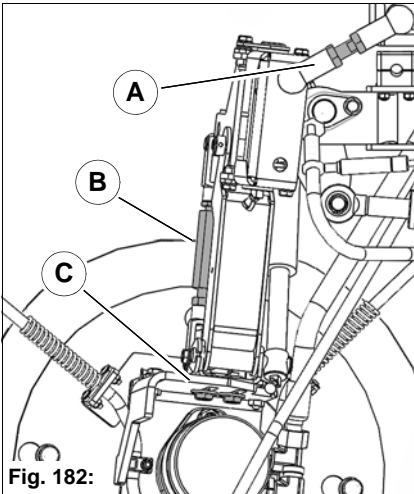
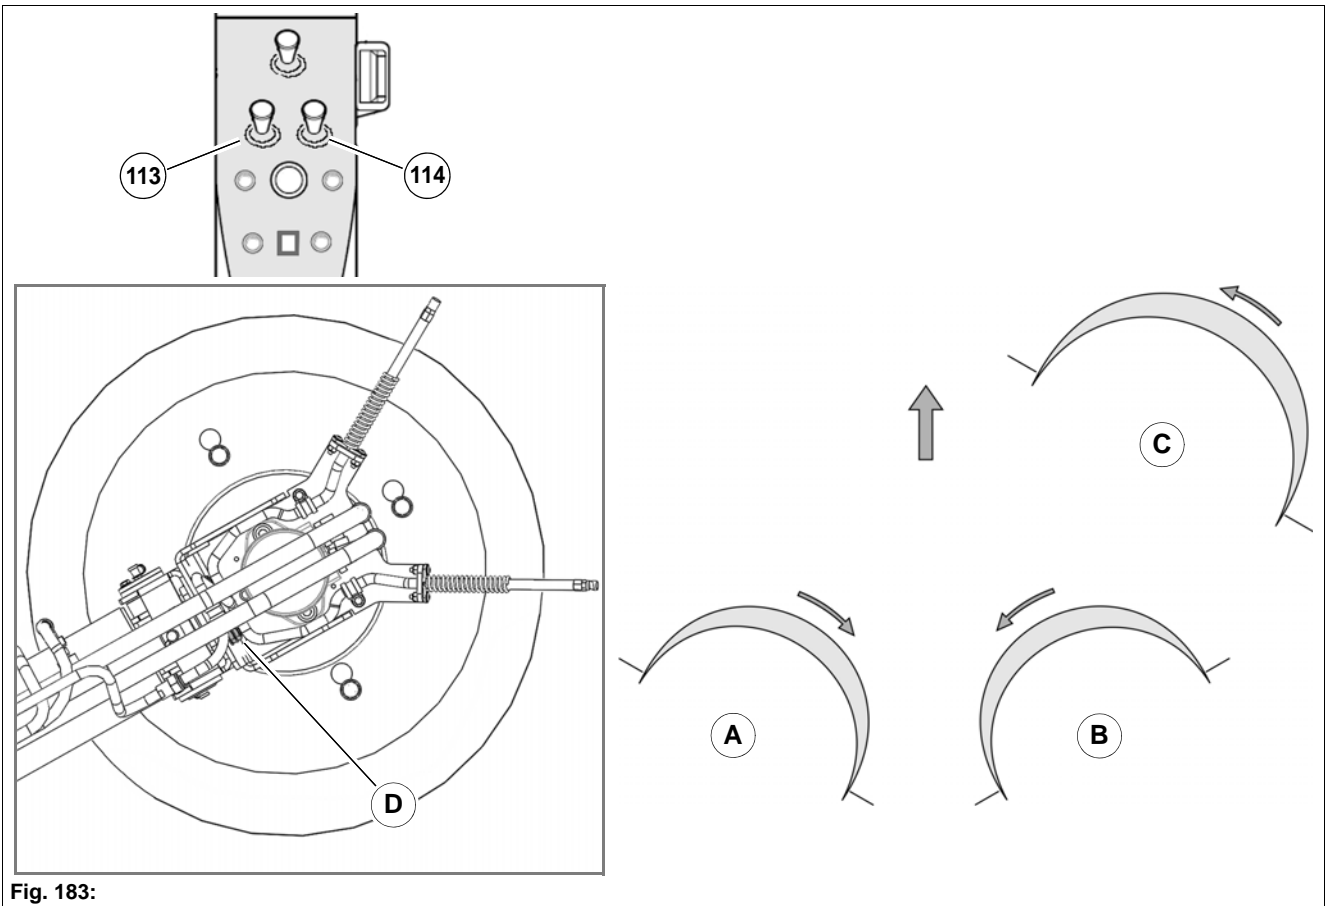

Fig. 182:
Fig. 183:
Check the sweeping level **Fig. 183-A and B** for the pulled brushes at regular intervals. Maintenance intervals according to maintenance plan, see page 167.
The sweeping level **Fig. 183-A and B** for the pulled brushes is adjusted in the factory with the screws **Fig. 182-A, B and C**.
The sweeping level **Fig. 183-C** for the 3rd brush is adjusted in the factory with the four screws **Fig. 183-D**.
- The left rotating brush **Fig. 183-A** from 10 a.m. to 4 p.m.
- The right rotating brush **Fig. 183-B** from 8 a.m. to 2 p.m.
- 3rd brush **Fig. 183-C**: